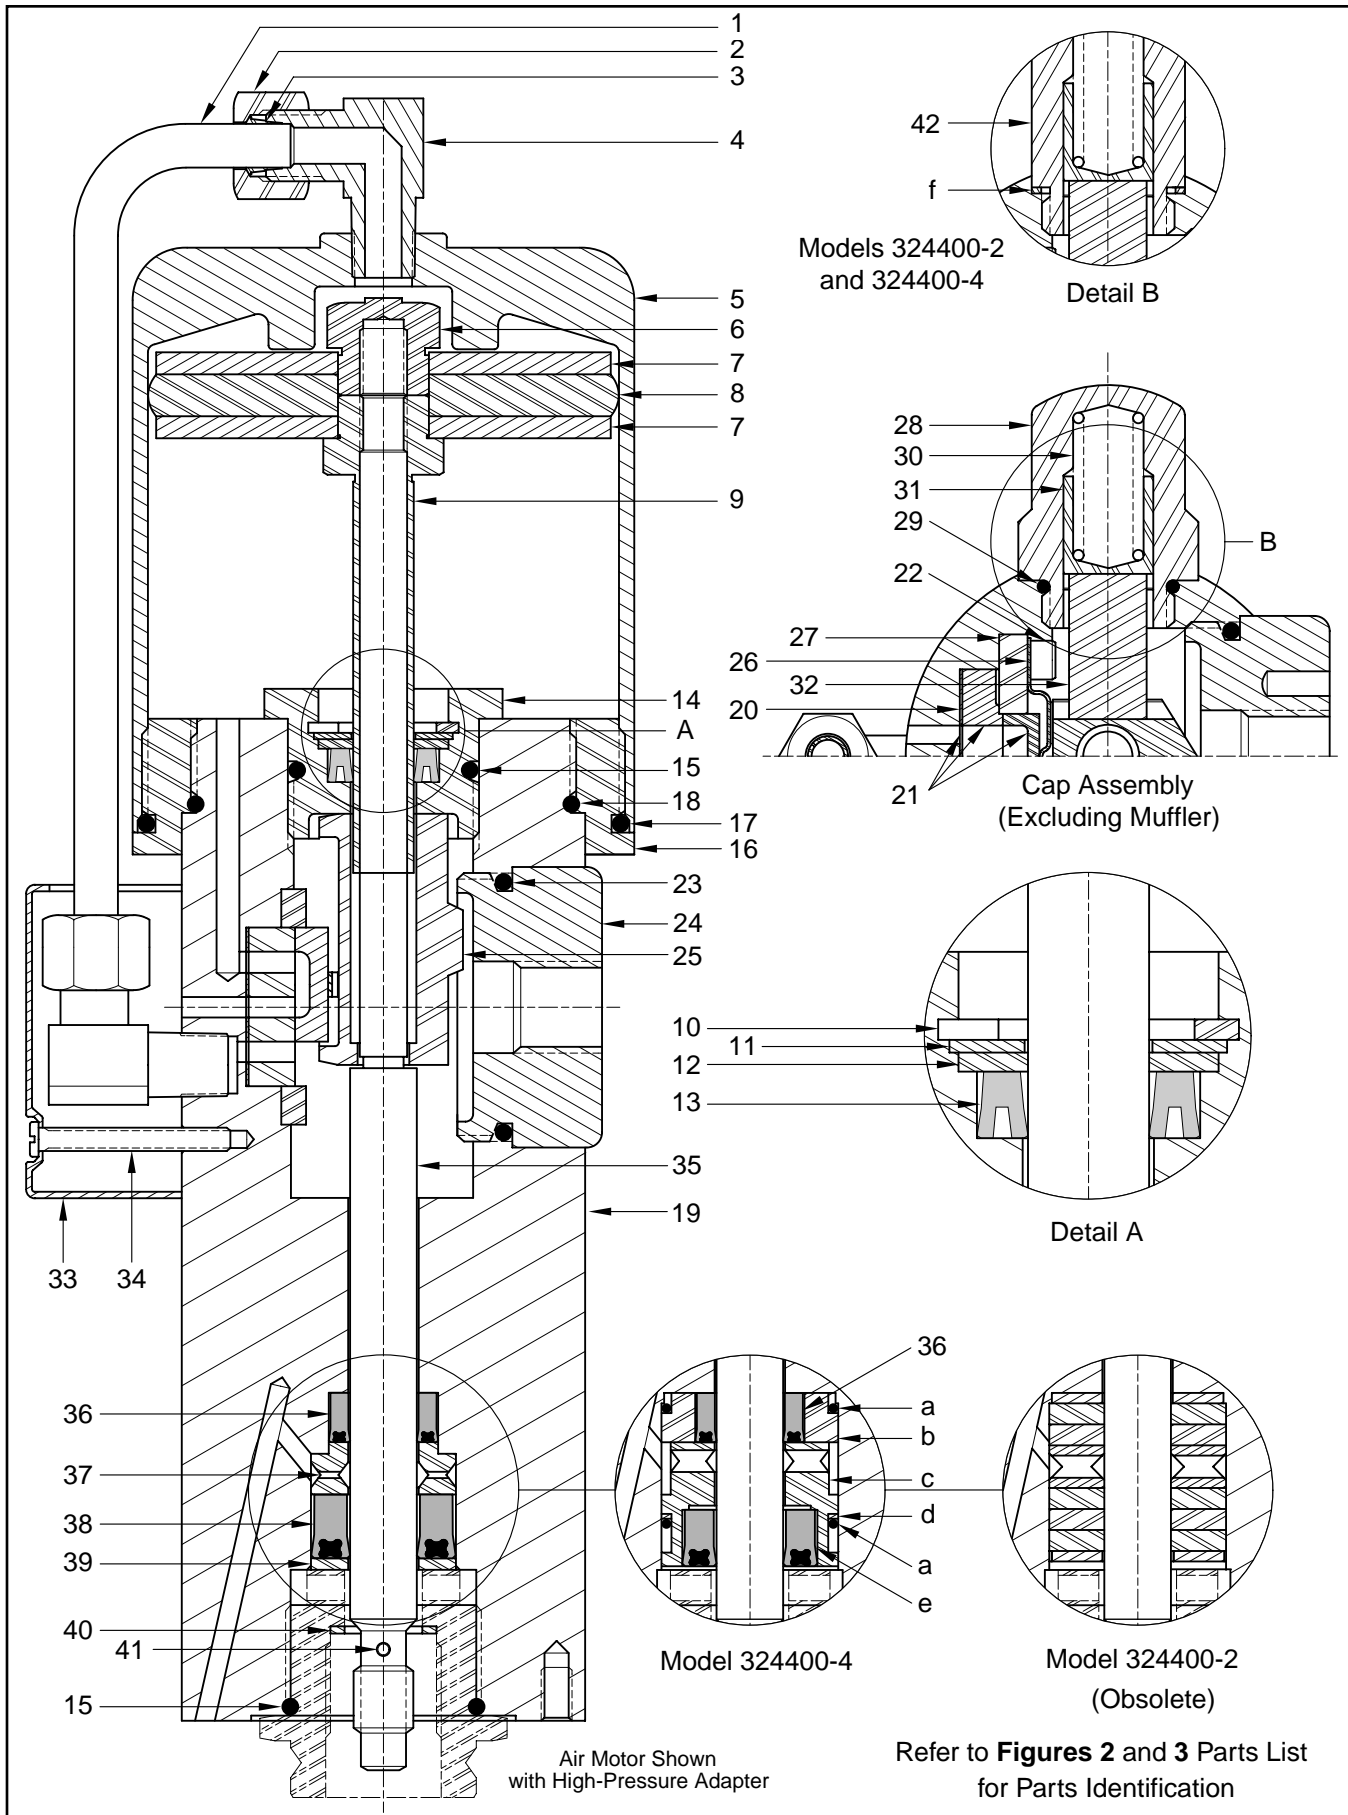

Figure 6 Air Motor Model 324400 Series - Section View
- model 324400-5 with a new Body. See **Figure 6**.
NOTE: Refer to **Figure 6** for a section view of the Air Motor Assembly.